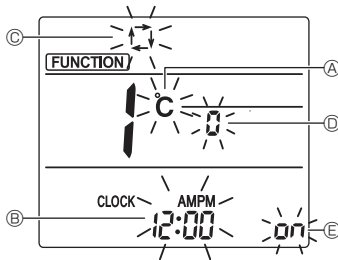

Fig. 4-2
- Press the **DOWN** button ④ to change the function No.
3. Check that function No. "1" is displayed, and then press the **SET** button ③.
- The Screen Display setting screen will be displayed. (Fig. 4-2)
4.2. Changing the temperature unit ④ [Factory setting: °C] (Fig. 4-2)